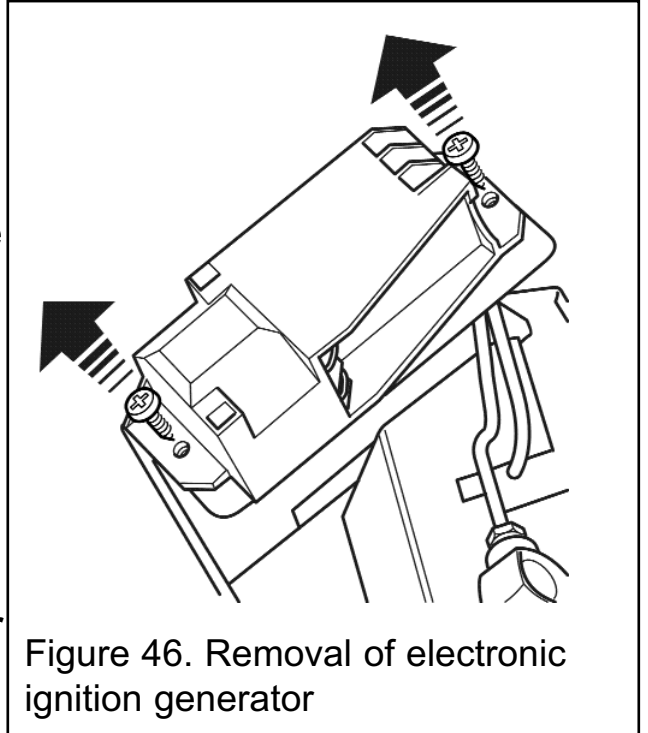

Figure 46. Removal of electronic ignition generator
4. Unscrew the two fixing screws that attach the generator unit to the support bracket. The igniter generator can now be removed (See figure 46). Between the igniter and the bracket are two spacer washers that must be kept.